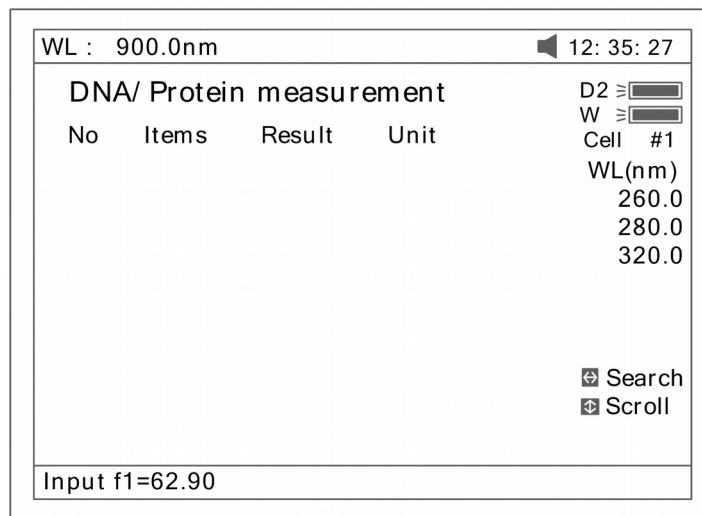

Fig 61
1. To use a simpler or different algorithm, you can enter your own values for f1-f4. Press **(F1)** to set f1-f4. Input the value by pressing the numeric keypad (Fig 61).